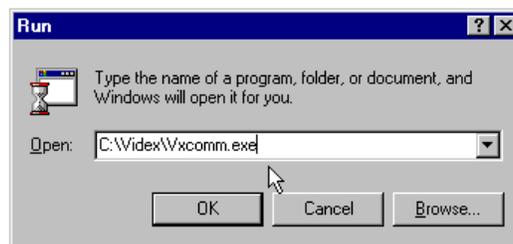

Figure F-2 Add Vxcomm.exe Parameters
- 8) Locate and open **Vxcomm.exe**. Click at the end of the path name to add the parameters (Figure F-2). The syntax is: